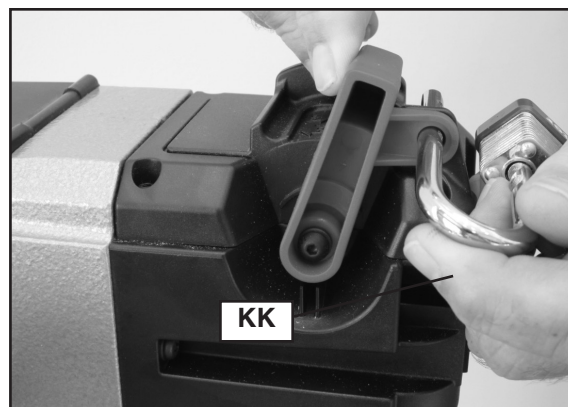

Fig. 23
IMPORTANT: When the machine is not in use, the switch should be locked in the "OFF" position to prevent unauthorized use, using a padlock (KK) Fig. 23 with a 1/4" (6.4 mm) diameter shackle.